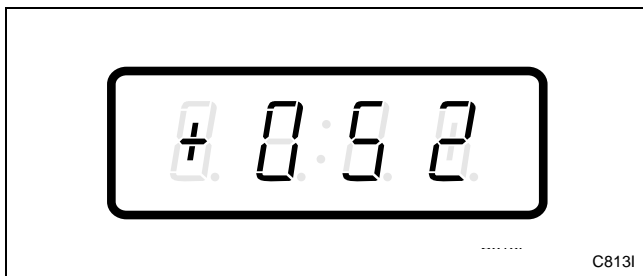

Figure 64
3. Press the DELICATES (+) or the COLD (-) keypad to scroll through the programmable options until “+052” appears in the VFD. Refer to *Figure 64*.